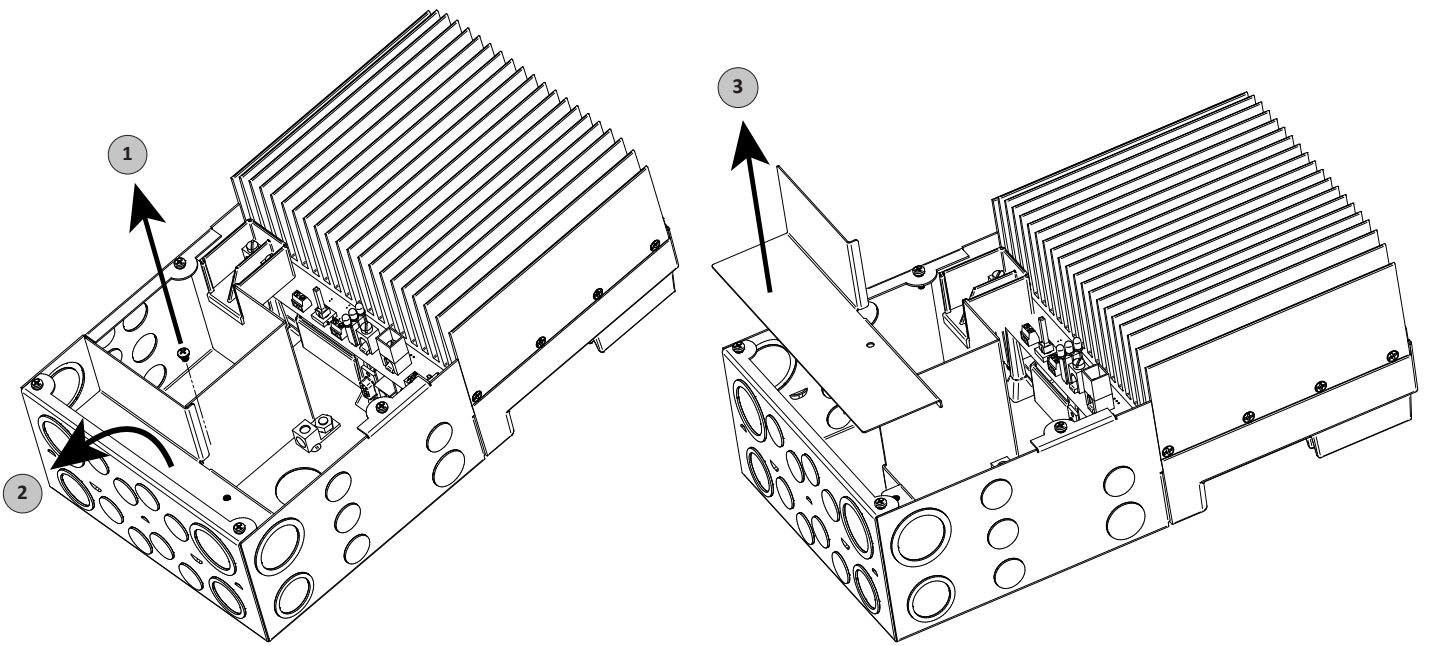

Figure 3-8. Remove the Wiring Divider.
The wiring divider separates the solar high voltage wiring from the low voltage battery and communication circuits. See Figure 3-8 . The divider is secured with only one screw.
2. Lift and tilt the divider towards the bottom of the unit as shown in Figure 3-8.